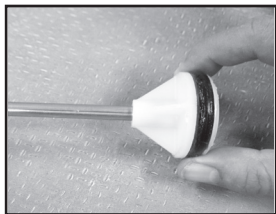

Figure 3
3. Inspect o-ring. If worn or damaged, remove and replace. Lubricate o-ring with petroleum jelly. **(See Figure 3)**